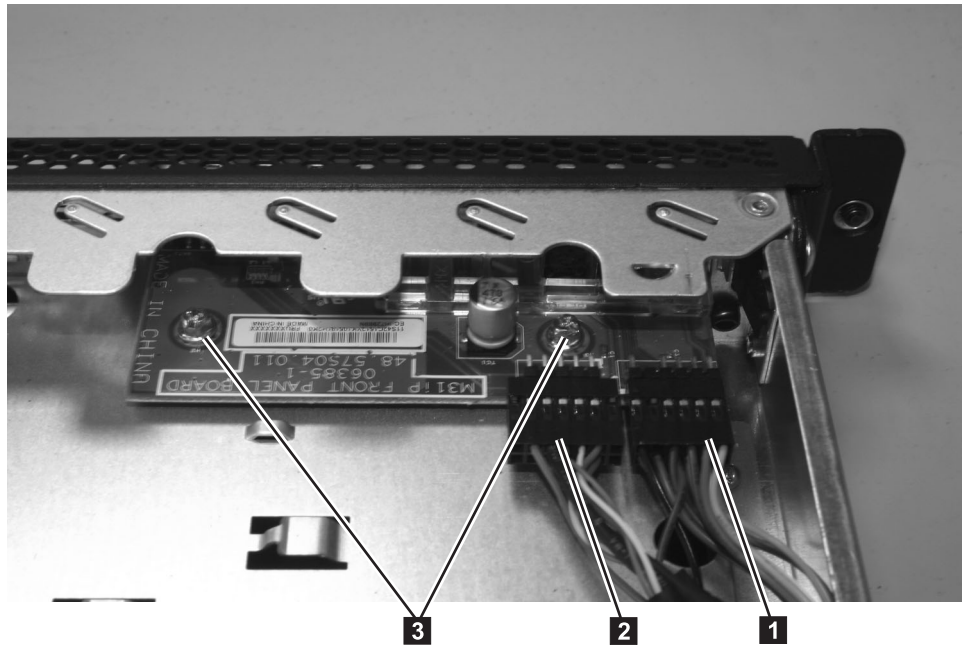

Figure 160. SAN Volume Controller 2145-8A4 operator-information panel
1. Connect the light panel cable **1** and the front USB cable **2**, shown in Figure 160, to the operator-information panel board.